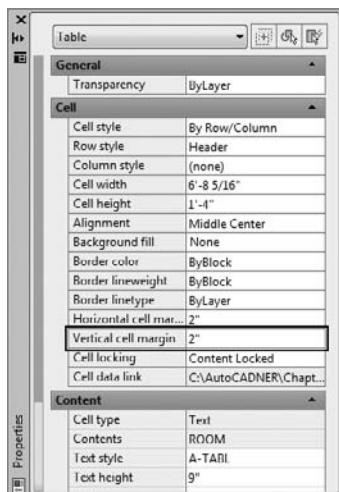

FIGURE 9.82 Modifying the Vertical Cell Margin
3. Under the Cell heading within the Properties panel change the Vertical Cell Margin property to 2" (see Figure 9.82). Press Esc to deselect the ROOM SCHEDULE table.